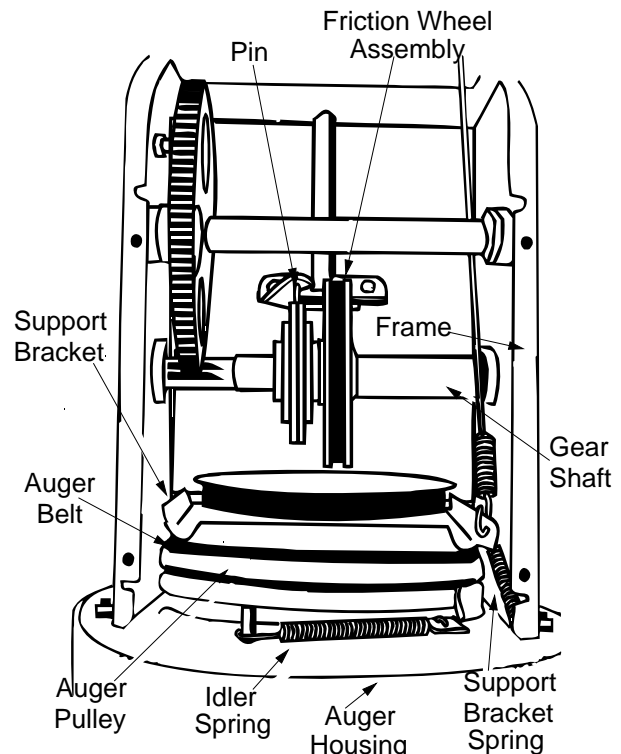

Figure 27
6. Unhook the idler spring from the hex bolt on the auger housing. See Figure 27.
10. Slide friction wheel assembly back onto the gear shaft. Be sure to align the pin on the shift rod with the hole in the friction wheel assembly. See Figure 27. Reassemble in reverse order.